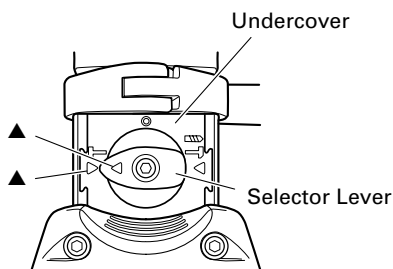

Fig. 7
(1) Switching to "hammering"
- (b) Align ▲ of the selector lever with ▲ on the T side of the undercover as illustrated in Fig. 7.